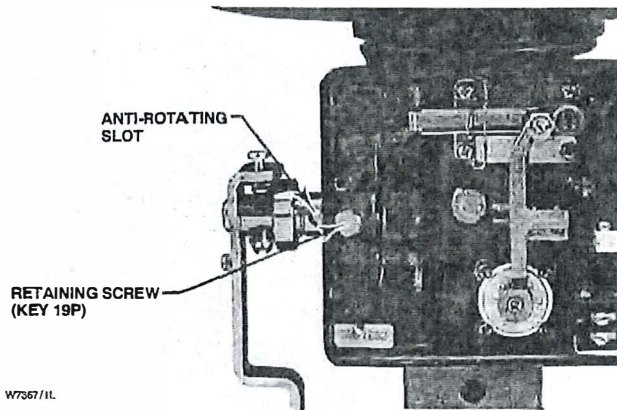

Figure 9. Installing the Feedback Lever Assembly (Key19) on the Positioner
1. Refer to figure 9. Loosen the retaining screw (key 19P) located in the positioner housing until it is fully retracted into the housing.
2. On the feedback lever assembly (key 19), loosen the zero adjustment screw (key 19S) until it is fully retracted into the clinch nut.
3. On the feedback lever assembly, loosen the hex nut (key 19D) so the pilot shaft (key 19A) moves freely in the slot.